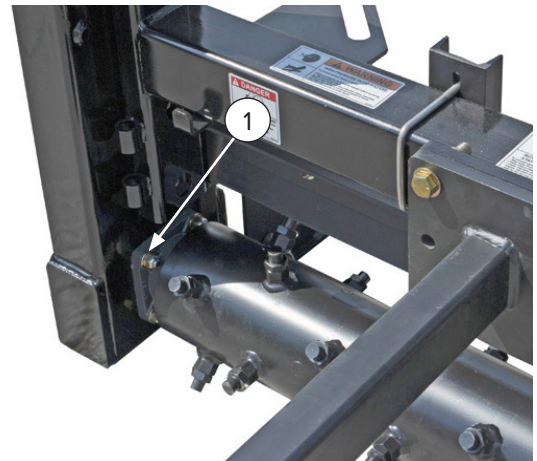

Figure 15
9. Remove the bearing mount bolts (Item 1) [Figure 15].